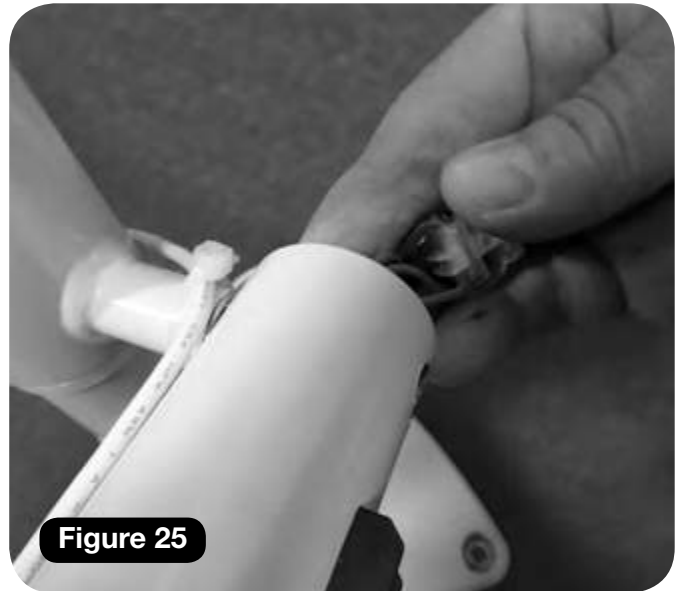

Figure 25
- k** Feed all of the wires into the end of the rail section **(Figure 25)**.